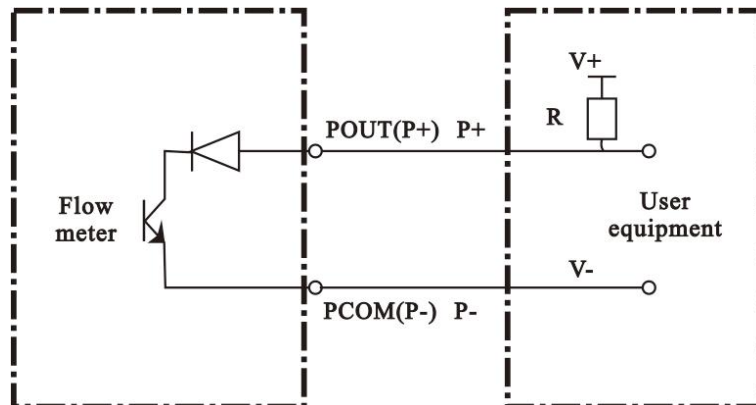

Figure 9
7.5.1 Output mode 1: OC door passive output, it is connected to pull resistance on the user side (Figure 9)